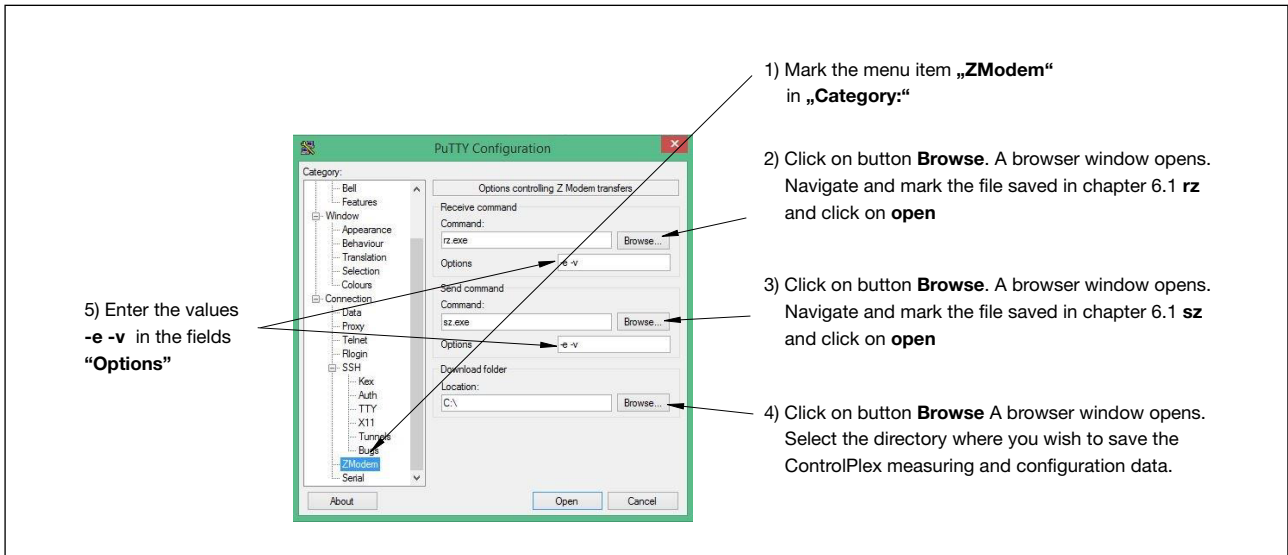

Fig. 8: ZModem configuration LePuTTY
2. Configure the ZModem settings, see fig. 8 bottom. Carry out the steps 1 to 5 beside the picture left and right.